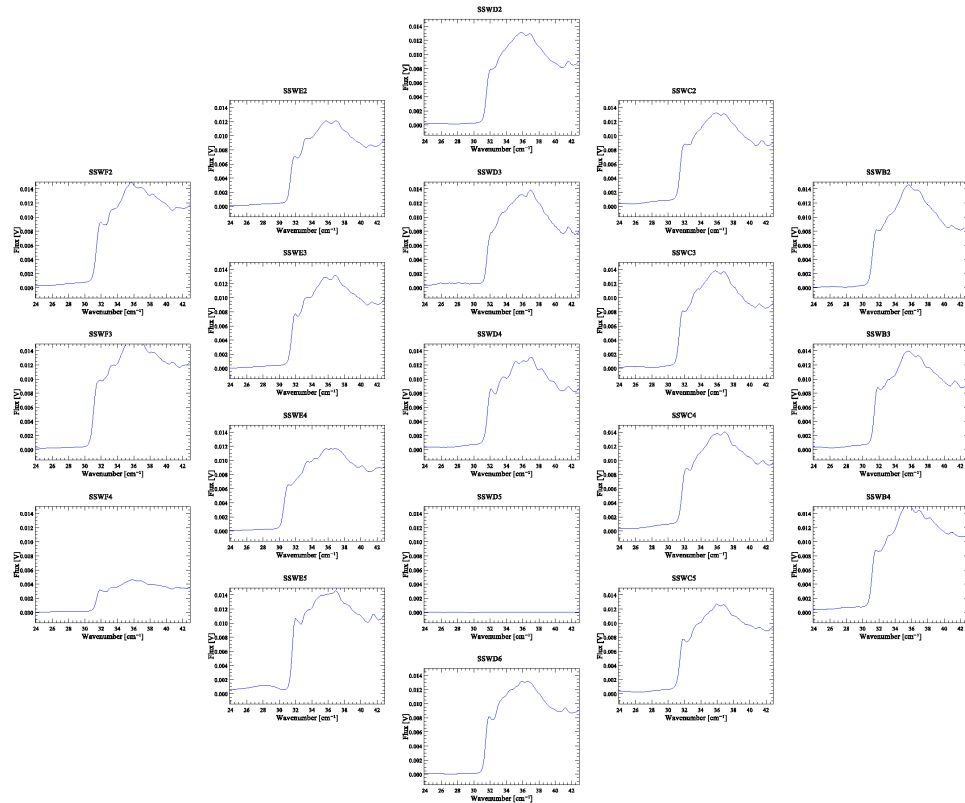

Figure 2.54. Thumbnail images of the unvignetted SSW detectors in the spectral region selected in the main plot window.
5. From the Thumbnails drop-down menu on the Control Panel, select to get thumbnail images from SLW, SSW, or the co-aligned detectors on SLW and SSW (see Figure 2.54).